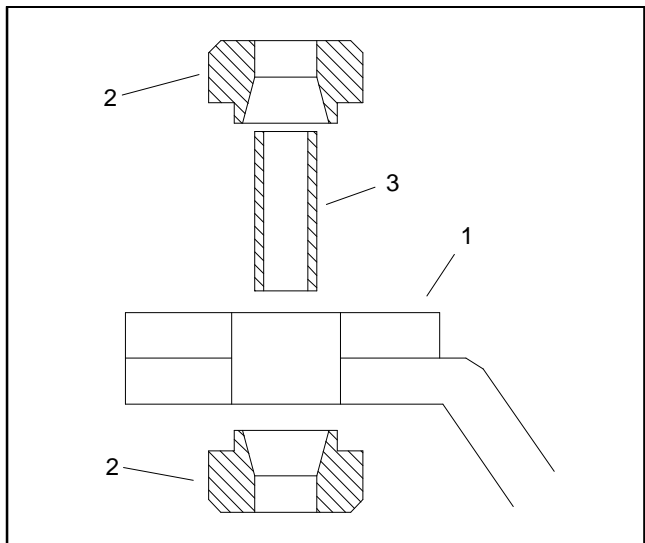

Figure 14
A. Make sure that engine mounts are correctly assembled (Fig. 14). Position engine mounting plate assembly under machine.